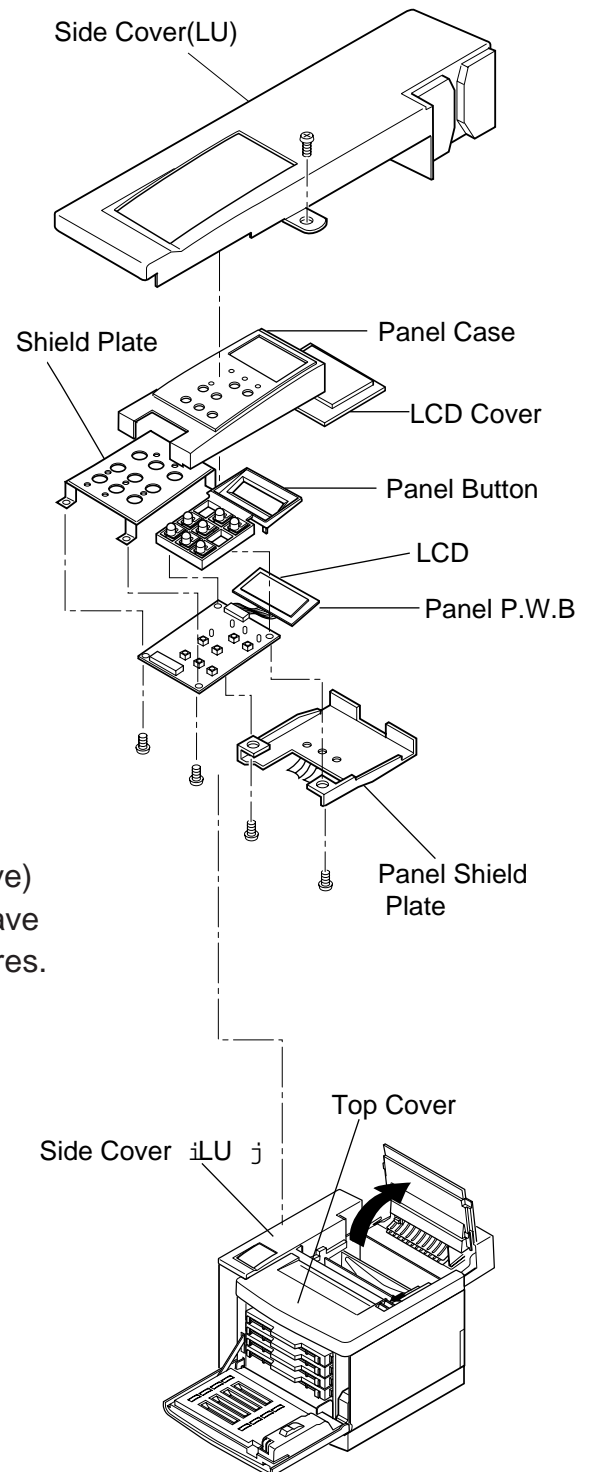

Fig.7-17
- ②. Remove the set screw [BT4× 10 (1 pc.)] of the panel case assembly.
- ③. Disconnect the connector.
- ④. Remove the set screw [BT3× 8 (4 pcs.)] of panel P.W.B and LCD from the panel case assembly; Upon removal of the panel P.W.B., the shield plate, panel button and panel shield can be removed as shown in Fig.7-17.